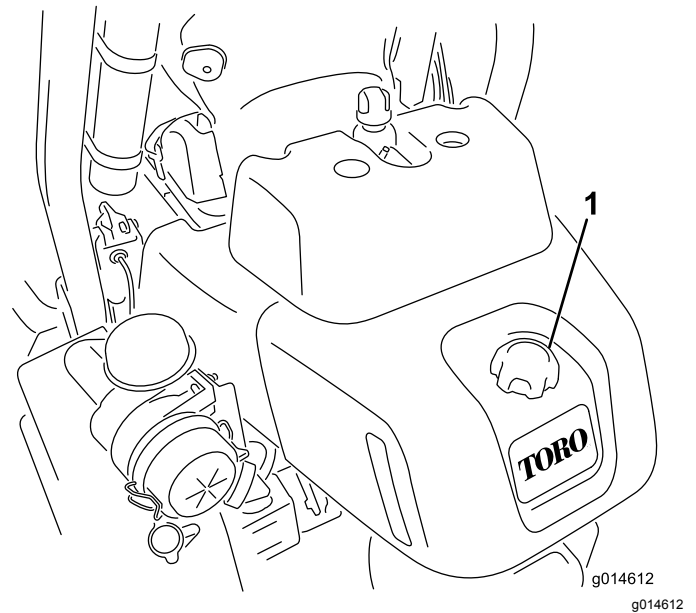

Figure 29
1. Clean around the fuel-tank cap (Figure 29).